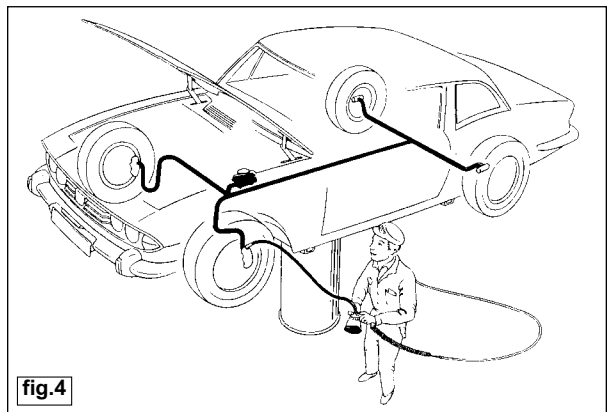

fig.4
- 3.06 Activate the brake bleeder's trigger. The vacuum created will draw the brake fluid from the vehicle's brake system ( See fig.4 )